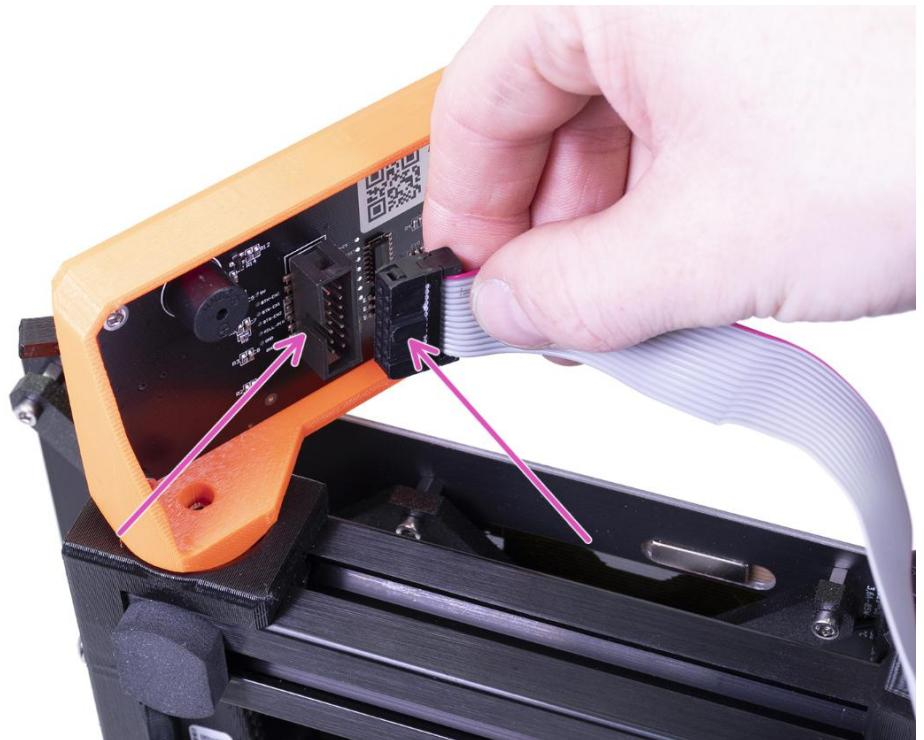

Figure 5.1.23
**A:** As shown in Figure 5.1.23. Carefully remove the free end of the LCD cable from the box with the electronics and connect it to the board on the LCD. Mind the correct orientation of the connector. Use the notch as a guide.